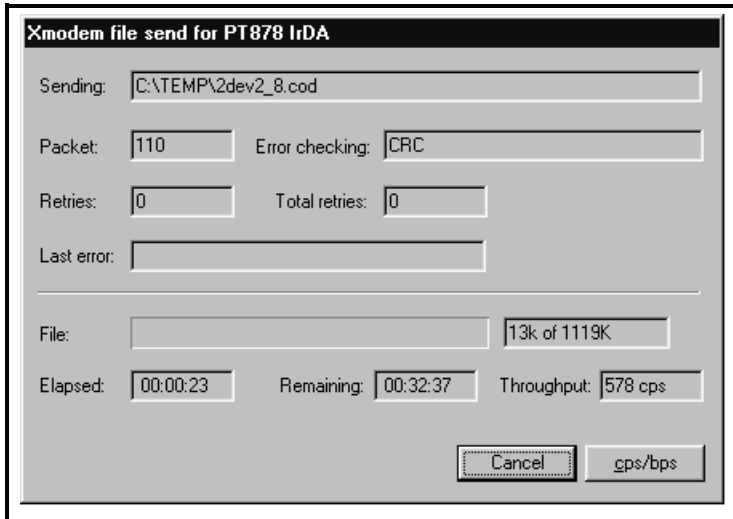

Figure 8-11: The File Transmission Window
5. Click *Send*. For a successful transfer, the PC window appears similar to Figure 8-11 below, while the PM880 screen displays the program ID, size, load address and a count of blocks being loaded.